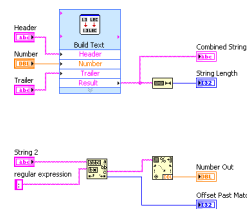

Figure 9.7
1. Build the block diagram shown in Figure 9.7.
- e. Complete the block diagram as shown in Figure 9.7.